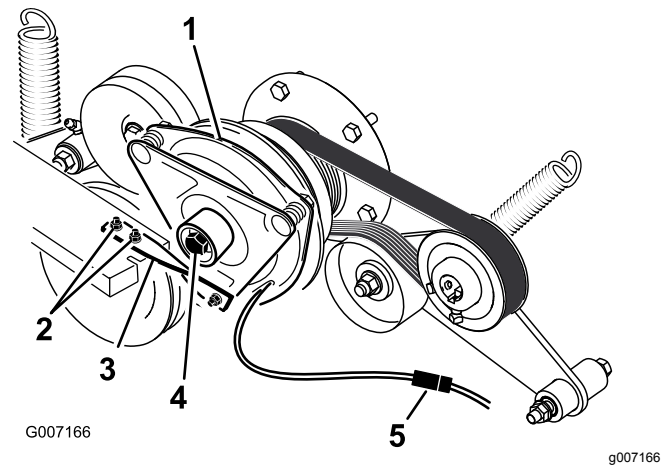

Figure 66
6. Unplug the electric connection for the clutch (Figure 66).
7. Remove the 2 bolts holding the rubber clutch strap to the mower frame (Figure 66).
8. Remove the center bolt holding the clutch to the engine shaft and remove the clutch and key (Figure 66).
15. While holding the crank shaft at the back of the machine, install the center bolt and torque it to 68 N·m (50 ft-lb) (Figure 66).
16. Install the rubber clutch strap to the mower frame with the 2 previously removed bolts and nuts (Figure 66).
18. Plug in the electric connection for the clutch (Figure 66).